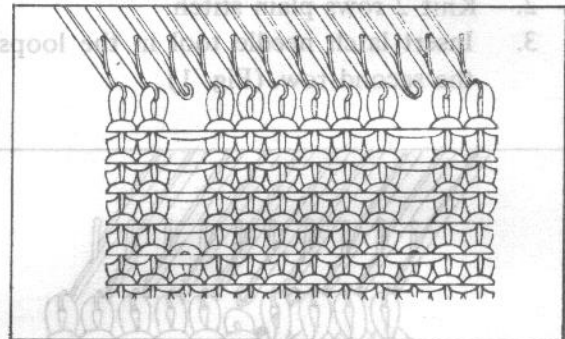

Fig. 1
1. Stitch is made by crossing loops. As shown in Fig. 1, unhook the loops on both sides of the stitches to be crossed for several rows, and place on holding pins. Return empty needles to A position.